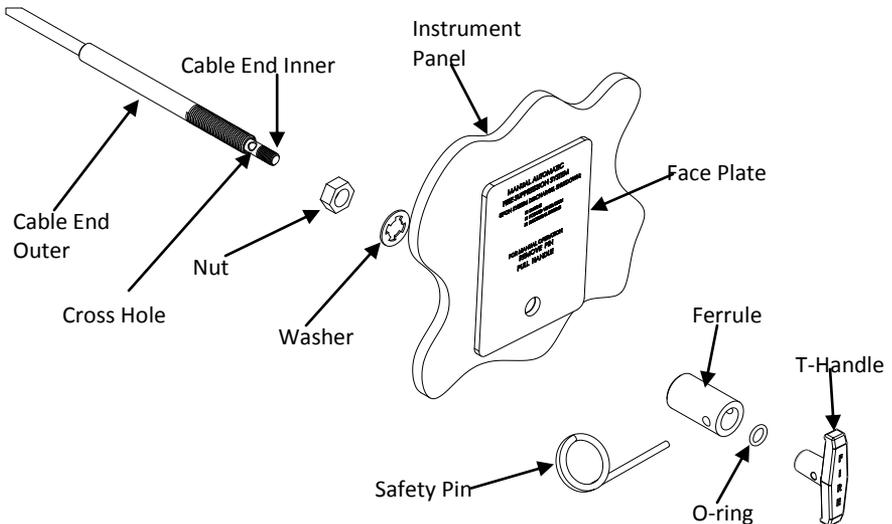

Figure 4
- a. Using the manual discharge faceplate (Figure 3, Figure 4) as a template, mark and drill a 13/32inch (10.4 mm) hole.
- c. Following the diagram in Figure 4, install the jam nut and lock washer on the cable end – outer. Screw the jam nut to the end of the threads. Insert the cable end through the panel and faceplate hole. Pull the cable end – inner (threaded shaft) out to its fullest travel. Install ferrule by screwing onto the cable end – outer until it bottoms out. Use pliers on the back side – holding the cable end – outer while turning the ferrule. Use pliers with rubber tips or other non-scratching grip. Do not over tighten.
- d. With cable end – inner (threaded shaft) out to its fullest travel, place rubber O-ring over threads on shaft. Hold the cable end-inner from rotating using the safety pin in cross hole (see Figure 4 – Page 11) or by using needle nose pliers. Install the T- Handle on the cable end – inner, screwing it on until it bottoms out. Do not over tighten.